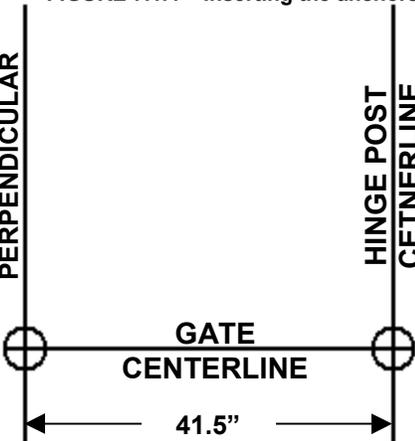

FIGURE 7.1.2
2. Mark the locations (perpendicular to the gate centerline) for the hinge post centerline (See Figure 7.1.2).
3. Center the hinge post at the intersection of the gate and hinge post centerline (See Figure 7.1.2).
4. With the gate arm in it's neutral position (home position), ensure that the entire unit: hinge post and gate arm are parallel to the gate centerline (See Figure 7.1.2).